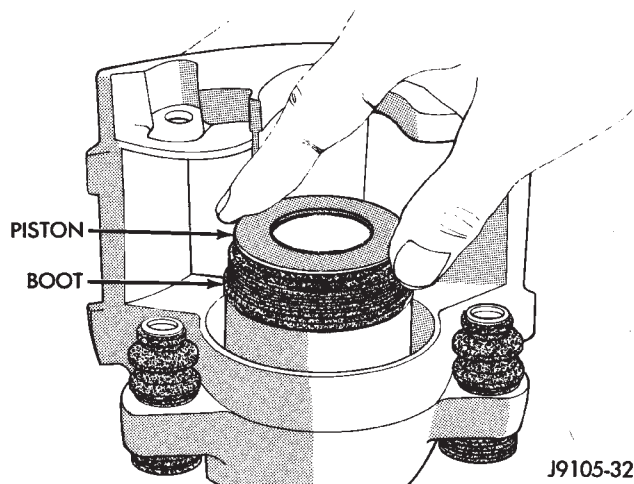

Fig. 20 Installing Caliper Piston
(6) Start caliper piston in bore by hand (Fig. 20). Use a turn and push motion to work piston into seal. Once piston is started in seal, press piston **only part way** into bore.